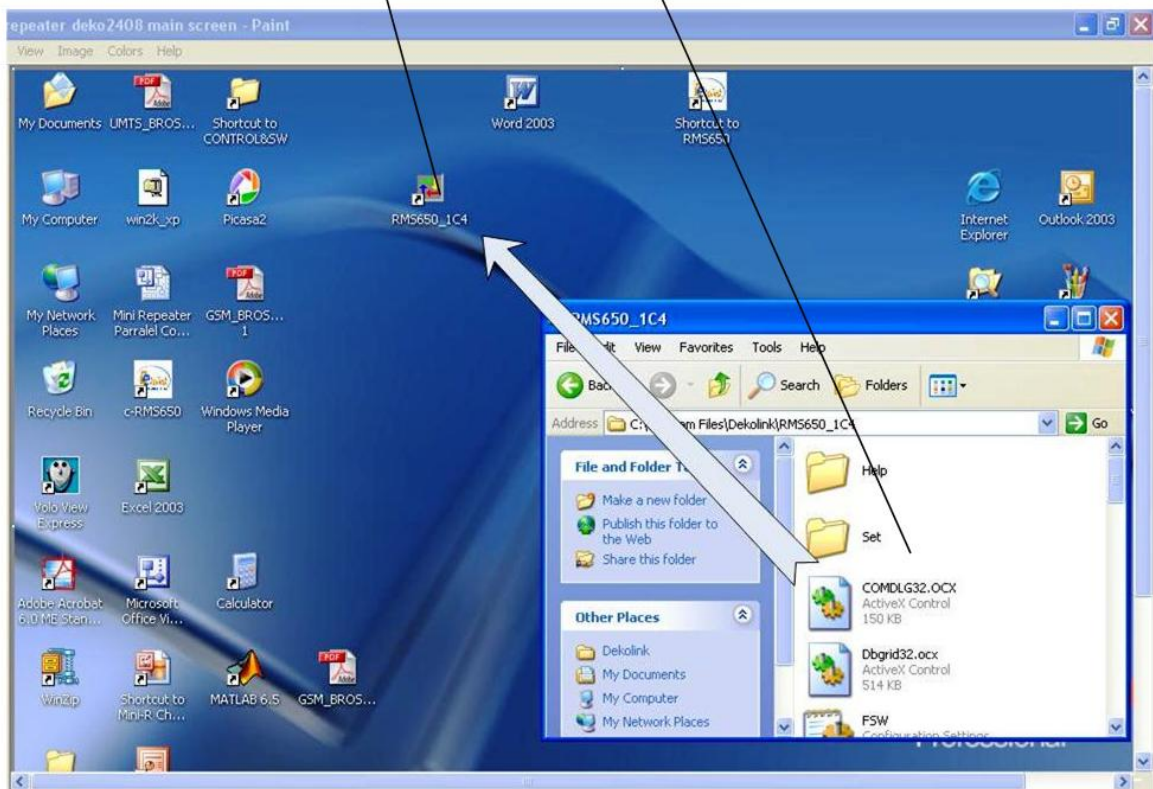

Figure 11: RMS Software – Install Command Screen
8. Double click on the RMS650 icon on the screen (see Figure 11)